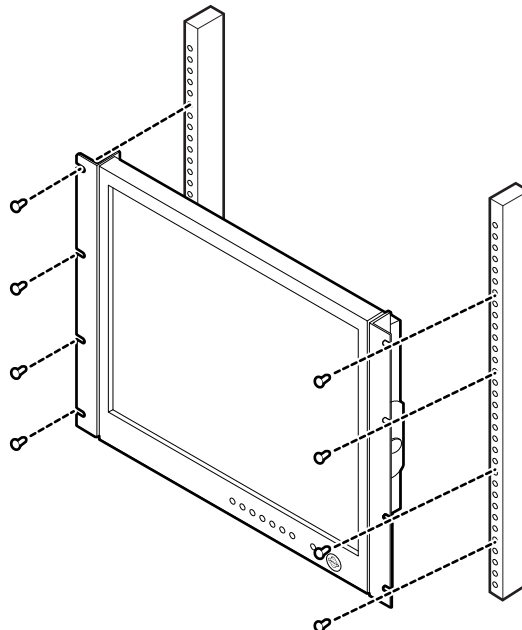

Figure 4. Installing the Monitor in the Rack
2. Attach the monitor to the rack (refer to Figure 4):